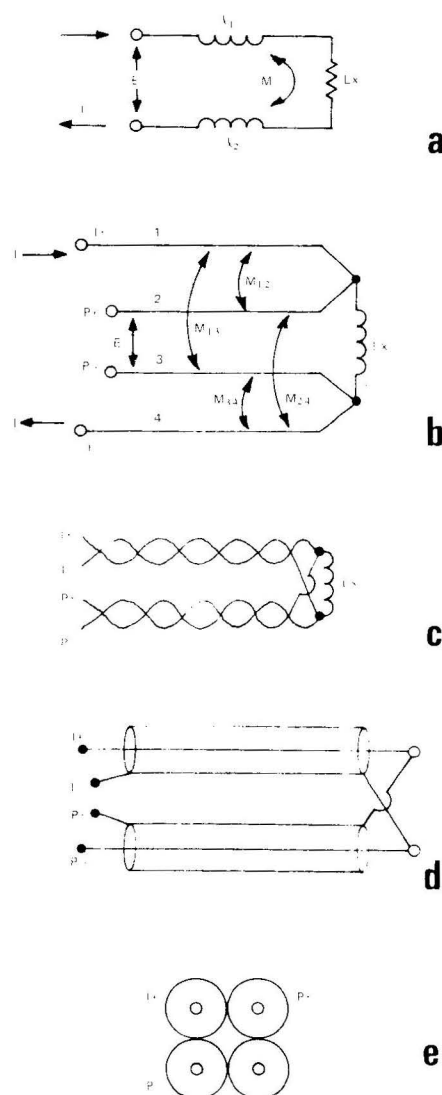

Figure 3-4. Connections to low-valued inductors.
A two terminal measurement as shown in Figure 3-4 A would indicate $L_x + \ell_1 + \ell_2 - 2M_{12}$ where ℓ_1 and ℓ_2 are lead self inductances and M_{12} the mutual inductance between them. To keep the error terms small, the leads should be short and they should be twisted or concentric to increase the mutual inductance so that $2M$ is nearly equal to $\ell_1 + \ell_2$. (It can never be equal to or greater than $\ell_1 + \ell_2$.)
inductor terminals. However, now mutual inductance between the current and potential leads (Figure 3-4 B) gives a measured value of
This error may be reduced by making the mutual inductances small or making them equal. One way to greatly reduce this error is to twist the potential (P) leads together and twist the current (I) leads together (Figure 3-4C). (The mutual inductances M_{14} and M_{23} do not affect the measurement.) This not only reduces the undesired mutual inductances but also gives a high degree of symmetry so that they cancel well. The shielded lead arrangement of Figure 3-4 D is even better, for there is no magnetic field outside the shields. The shielded test leads used in the 1685 reduce this error by using a lead arrangement with a cross-section shown in Figure 3-4 E, which keeps the mutual inductances symmetrical so that they cancel.